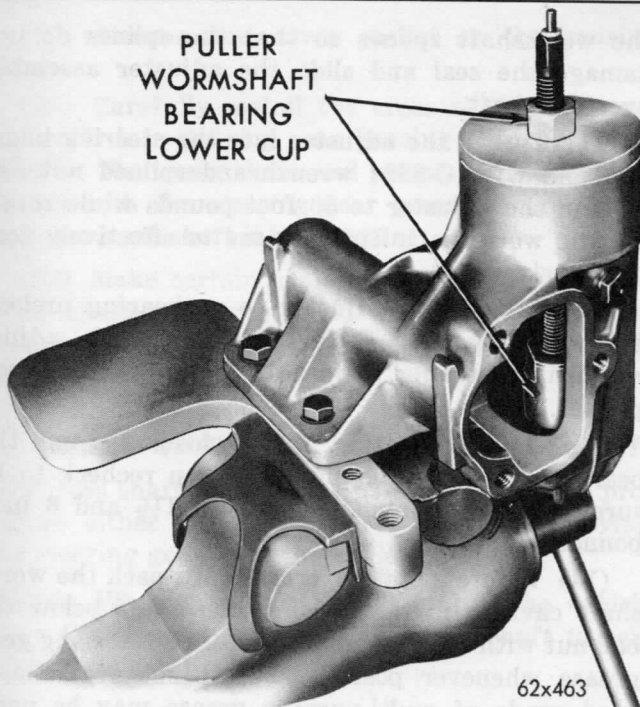

Fig. 11—Removing Lower Bearing Cup (Tool C-3868)
(11) Remove the wormshaft oil seal from the wormshaft bearing adjuster, by inserting a blunt punch behind the seal and tap alternately on each side of the seal until the seal is driven out of the adjuster.
(12) Remove the wormshaft upper bearing cup in the same manner. However, this must be done carefully to avoid cocking the bearing cup and distorting the adjuster counterbore.
(13) Remove the lower cup if replacement is necessary by positioning the locking puller head jaws of Puller C-3868 (Fig. 11) behind the bearing cup and expanding the puller head by pressing down on center plunger of tool. Withdraw the bearing